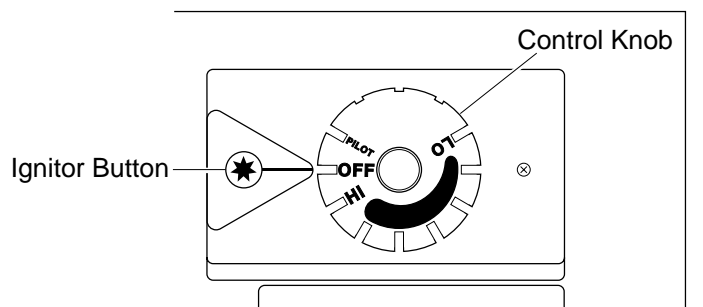

Figure 22 - Control Knob In The OFF Position
4. Wait five (5) minutes to clear out any gas. Then smell for gas, including near the floor. If you smell gas, STOP! Follow “B” in the safety information at the top of page 20. If you don’t smell gas, go to the next step.
5. Turn control knob counterclockwise  to the PILOT position. Press in control knob for five (5) seconds (see Figure 22, page 20).